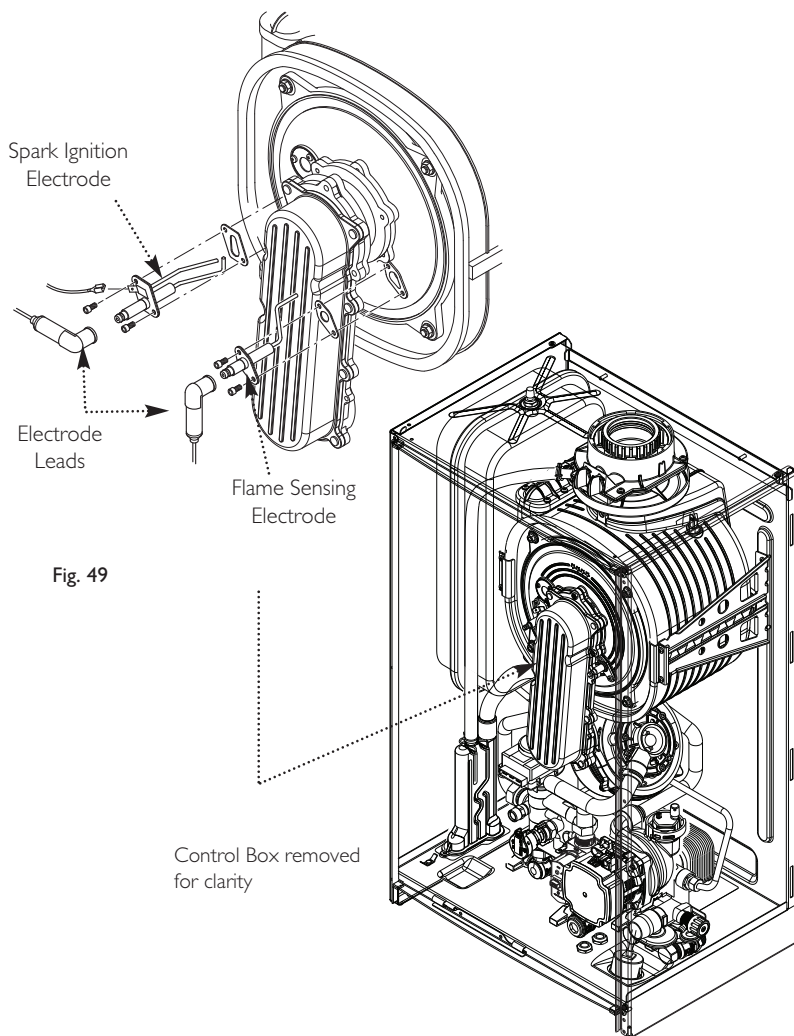

Fig. 49
13.1 Spark Ignition and Flame Sensing Electrodes (Fig. 49)